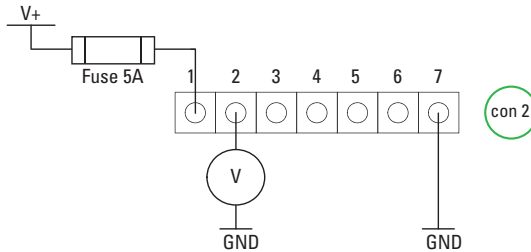

Figure 20. Determining the batteries SoC
3. Determine the voltage at Pin 2 of CON2 (see Figure 20).